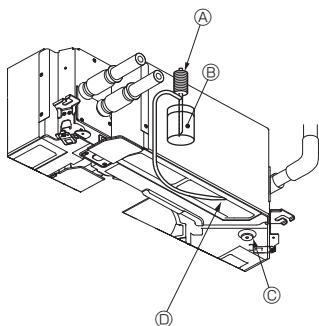

Fig. 6-8
6.4. Check of drainage (Fig. 6-8)